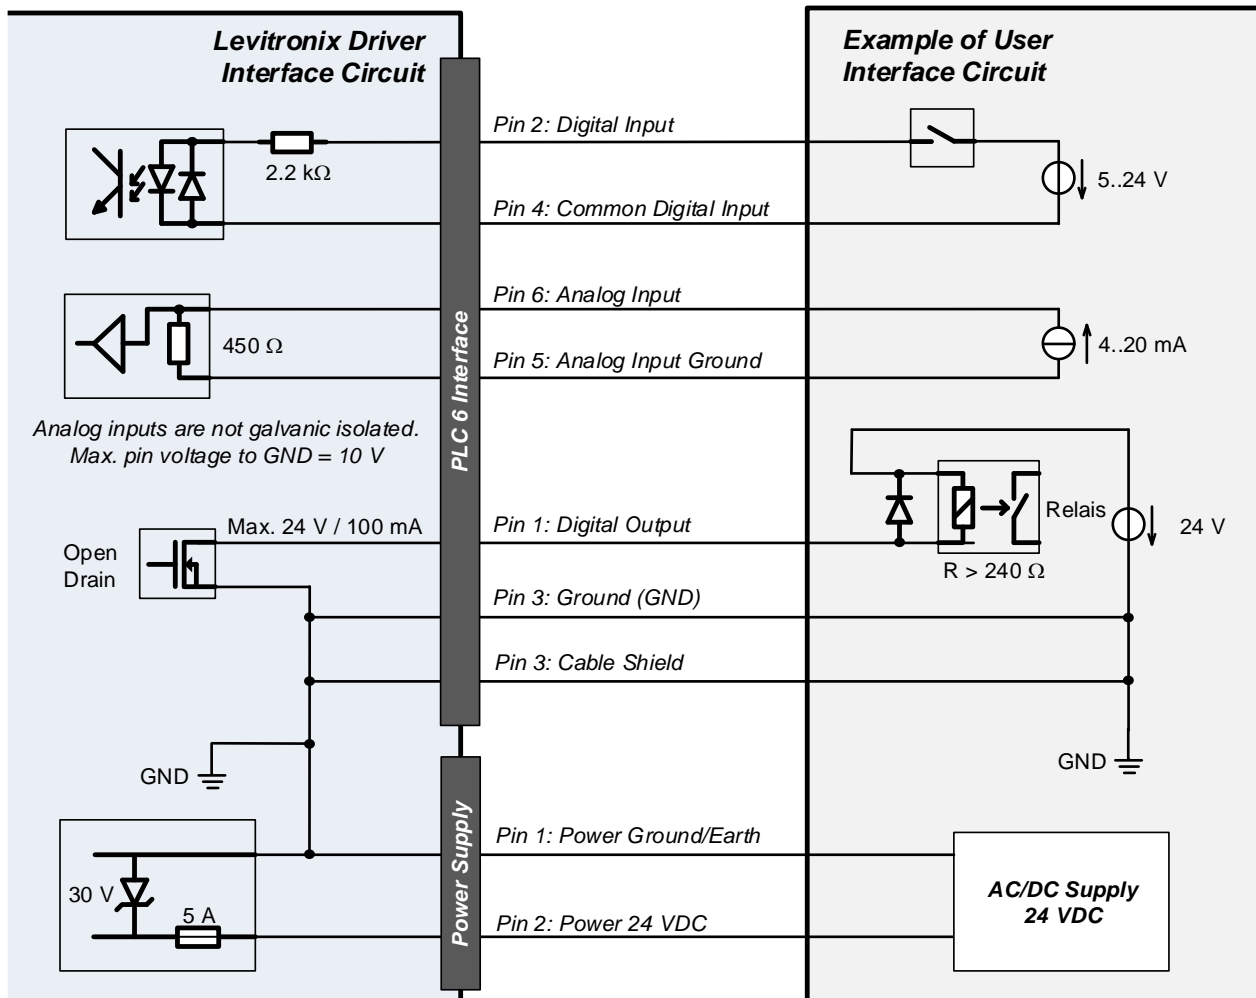

Figure 22: Electrical schematics of interfacing for Stand-Alone driver model
3. Follow *Figure 22* as reference for hardware configuration of the PLC in/outputs.